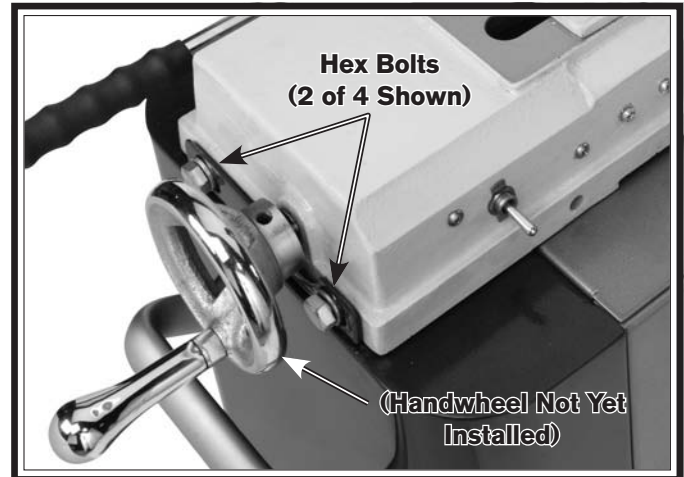

Figure 13. Mounting bandsaw to stand.
9. Secure the bandsaw to the stand with four M12-1.75 x 25 hex bolts and 12mm flat washers, as shown in **Figure 13**.